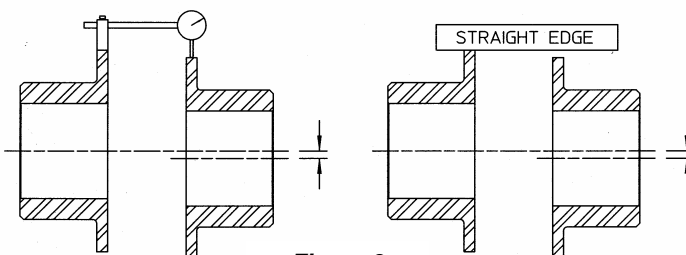

Figure 3
E. Parallel Offset. Rigidly mount a dial indicator on one hub or shaft, reading the other hub flange outside diameter, as shown in Figure 3. Compensate for indicator set-up sag. Rotate both shafts together. Adjust the equipment by shimming and/or moving so that the indicator reading is within .001 inch per inch of the axial length between flex elements.